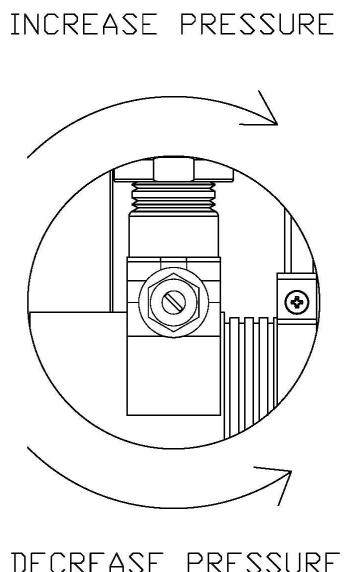

FIGURE 3
5. Turn the RO system on #6 and adjust the concentrate (waste) valve #8, recycle valve # 7 (if applicable), and the bypass screw on the pump to the designed flow and pressure. (Figure 3, Page 24)
Use a flat screw driver to increase or decrease the pressure to the bypass valve. To increase the pressure, turn the screw clockwise. To decrease the pressure, turn the screw counter clockwise. (Figure 3, Page 24)